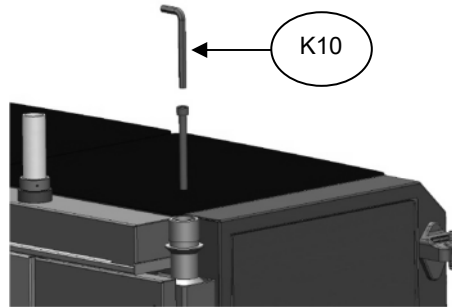

Fig. 4
6. With the 10mm Allen key **K10** adjust moderately the internal screw (Fig.4)